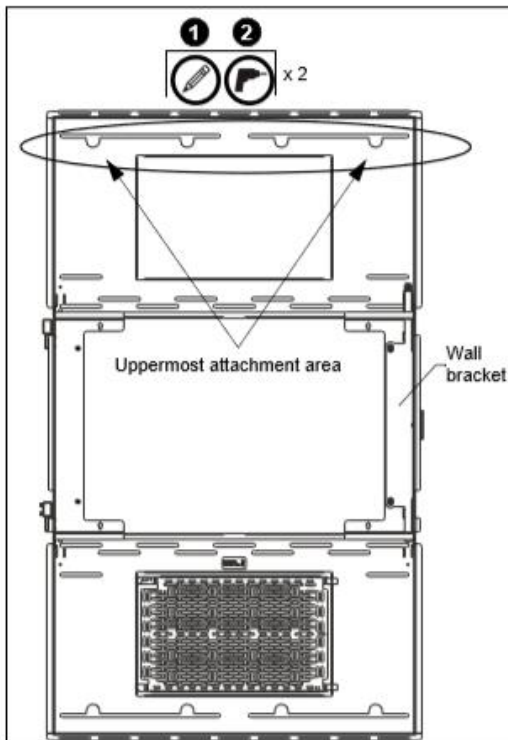

Figure 2
1. Determine the center of the wall bracket, and where it should be located on the wall. (See Figure 2)
NOTE: For wood or steel stud walls, use a level and mark the two uppermost locations over studs for attachment a minimum of 16" apart and a maximum of 24" apart. (See Figure 2)
NOTE: For concrete walls, use a level and mark the two uppermost locations for attachment as far apart as possible to provide maximum stability. (See Figure 2)
NOTE: For concrete walls, use a level and mark the two uppermost locations for attachment as far apart as possible. (See Figure 2)
2. Drill one pilot hole (see Table 1 for size) at both locations marked in Step 1 (See Figure 2) and follow fastener information (appropriate for wall type) located in Table 1.